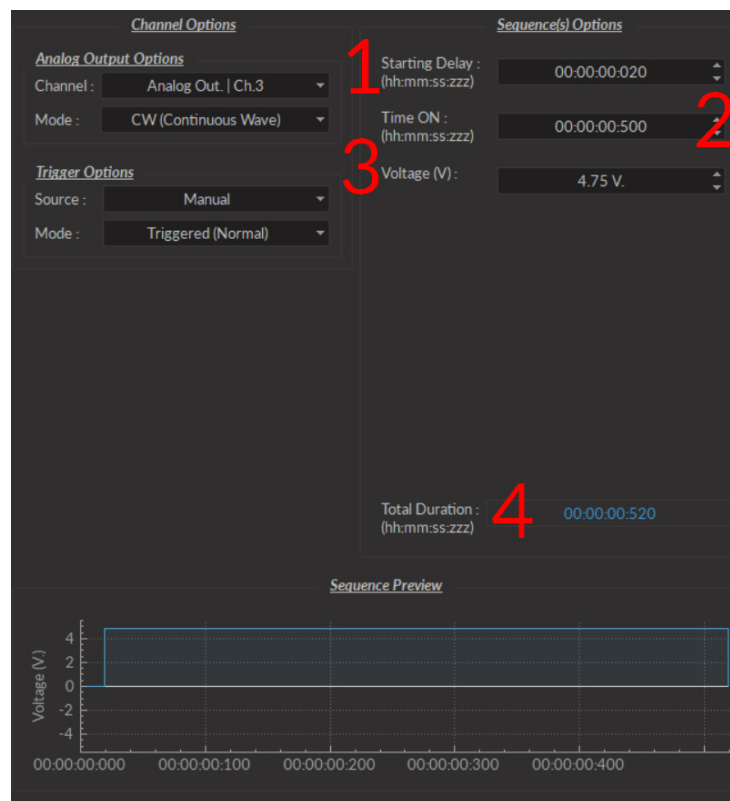

Figure 3.19: Channel(s) configuration window, Analog Output CW
- The **CW (Continuous wave)** channel mode (Fig. 3.19) allows the creation of a continuous analog signal. The following elements appear in the **Sequence Options** box.
1. The **Starting Delay** (Fig. 3.19) defines the time between the activation of the pulse sequence and the beginning of the signal.
2. The **Time ON** (Fig. 3.19) defines the length of time the continuous signal is active. Should the time chosen be 0, the signal will continue until the pulse sequence is stopped manually.
3. The **Voltage** (Fig. 3.19) defines the voltage of the continuous signal, in volts. The signal cannot go beyond ± 4.75 V.
4. The **Total Duration** (Fig. 3.19) shows the total expected duration of the pulse sequence. Should the duration be infinite, the box will display ∞ . If there is an error in parameter selection, this box will display **N/A**.